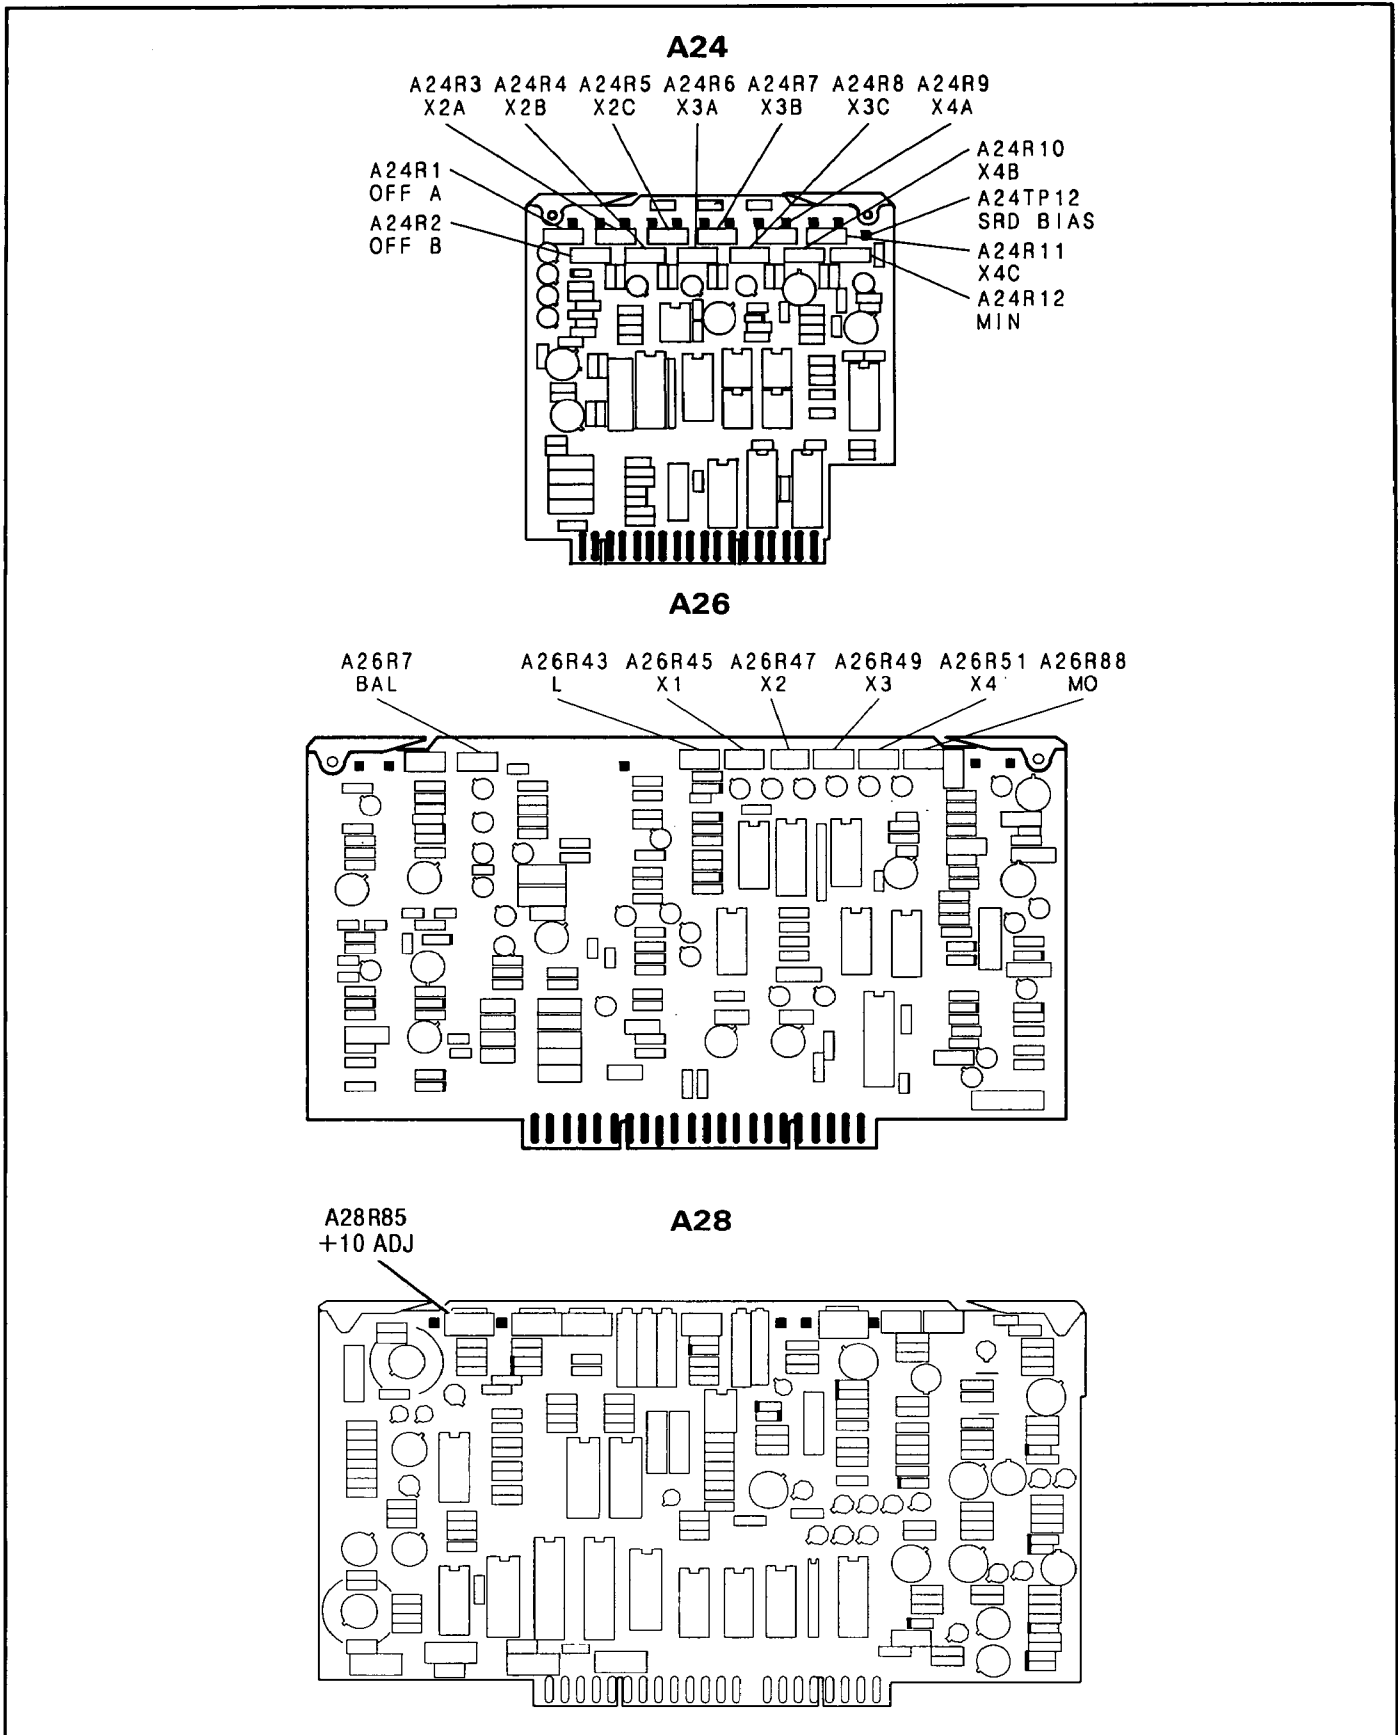

Figure 5-36. SRD Bias Adjustments Location
4. Set A24R1 (OFF A) (Figure 5-36) and A24R2 (OFF B) controls fully clockwise.
5. Set A26R88 (MO) fully clockwise.